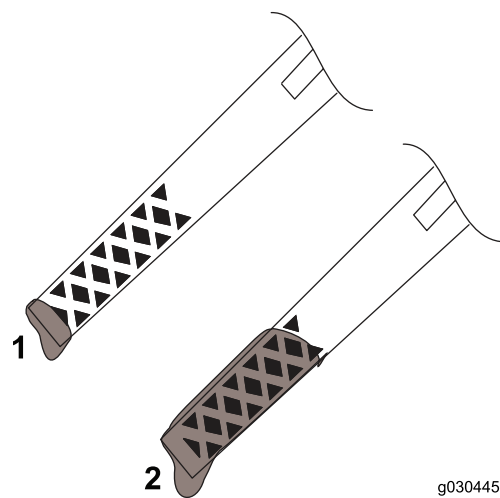

Figure 14
- If the oil level is below the Add mark on the dipstick (Figure 14), add oil. Refer to Checking the Engine-Oil Level \(page 8\).
- If the oil level above the Full mark (Figure 14), drain the excess oil until the oil level is at the Full mark on the dipstick; refer to Checking the Engine-Oil Level \(page 8\).